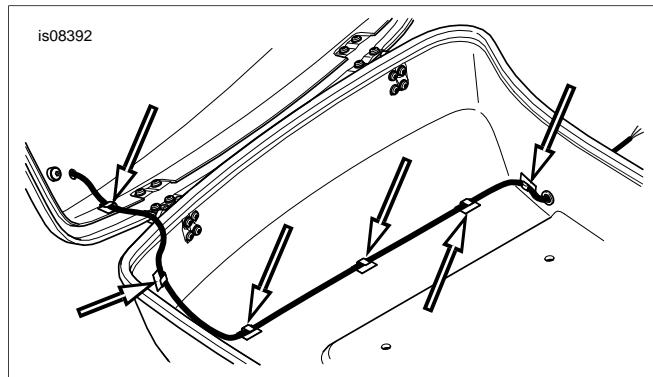

Figure 2. Spoiler Light Wire Routing Inside Tour-Pak (Chopped Tour-Pak Shown)
4. See Figure 2. Get the six remaining adhesive-backed wire clips from the kit. Use the clips to route the spoiler wiring: